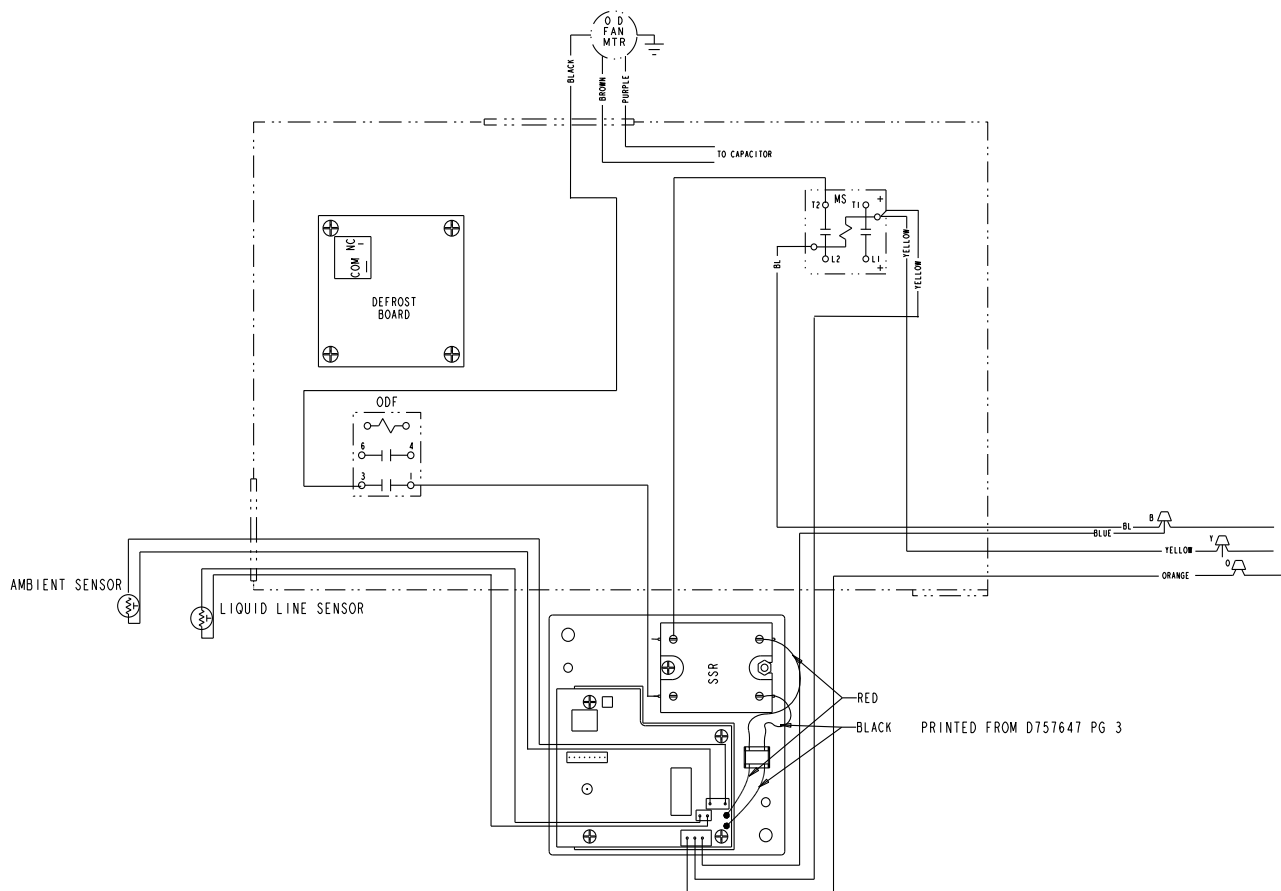

Figure 16. 2/4WC** Three Phase 460 Volt Heat Pump Models
7e. 2/4WC** Three Phase 460 Volt Heat Pump Models (see Figure 16)
contactor (low voltage contactor coil terminal). See Figure 16.
4. Connect the **orange** wire to the wire nut junction of the orange wire (use new wire nuts from kit). See Figure 16.